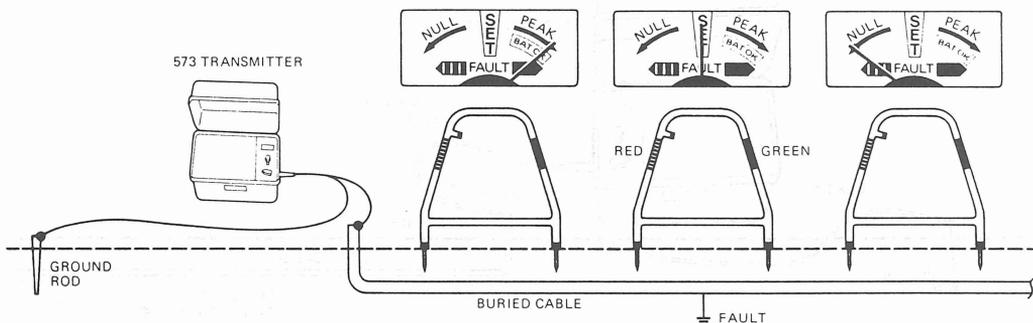

Figure 4-3. Meter Indication Around the Fault
- d) Orient the frame exactly as shown in Figure 4-3 with the green (solid) marker towards the fault, and the red (striped) marker towards the Transmitter.